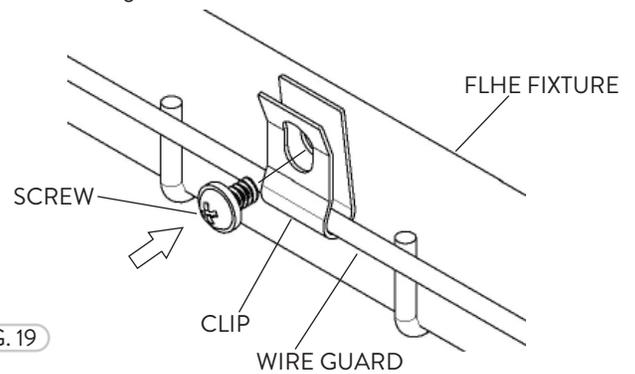

FIG. 19
- 2 Use the (four) formed Clips to fasten the Wire Guard onto the FLHE fixture. This is done by using the (four) holes located on the ends of the fixture (Fig. 19).